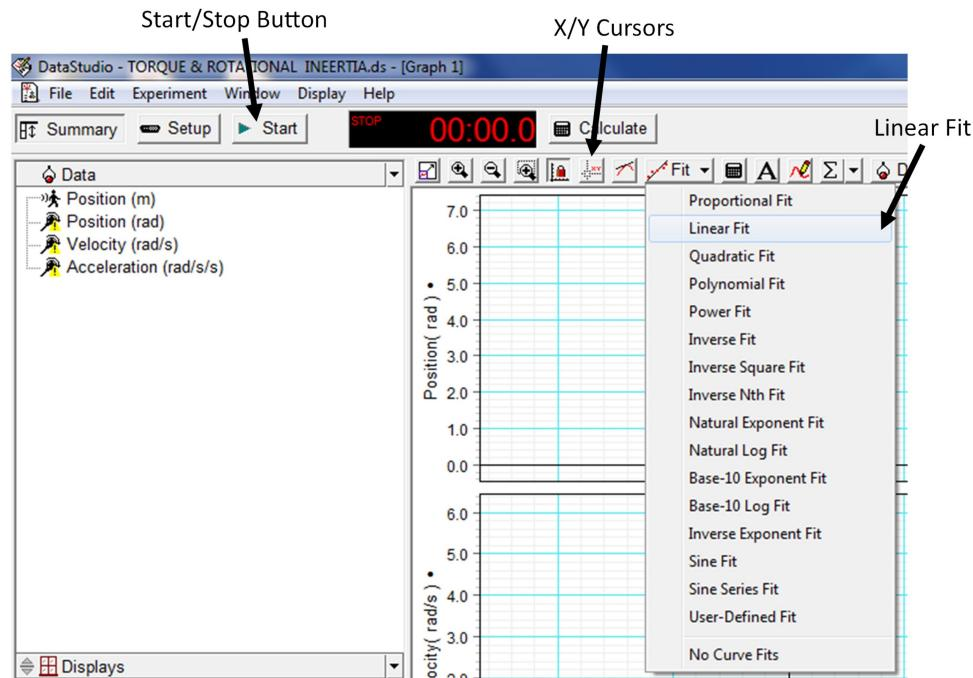
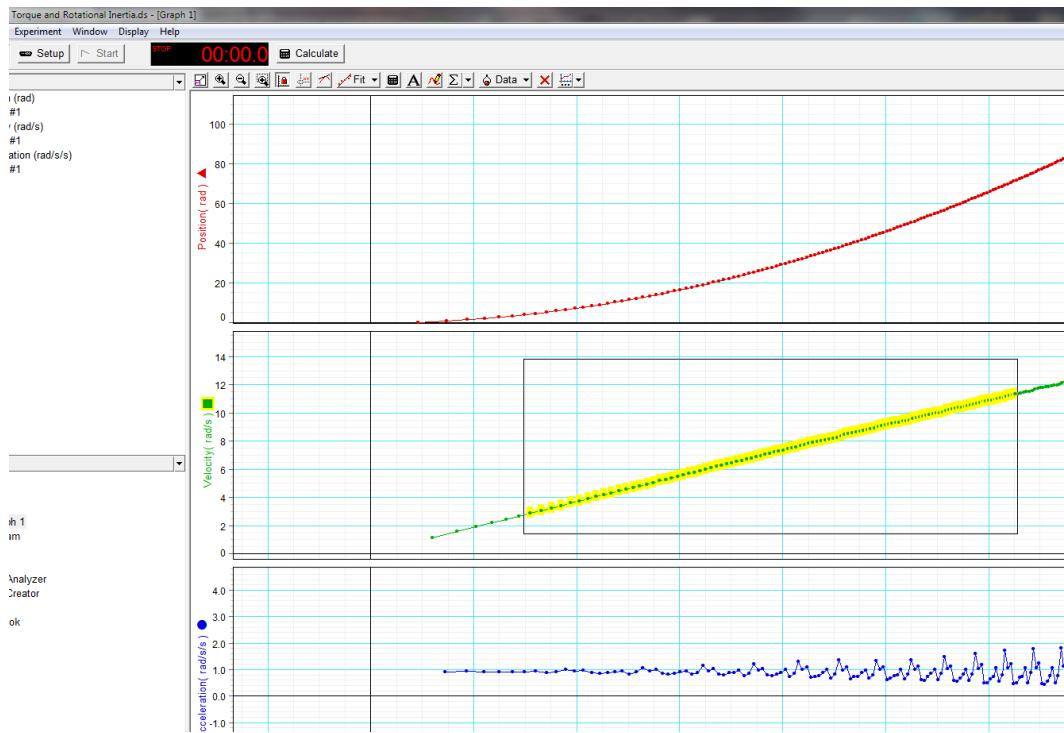

Figure 4: DataStudio Start button.
Figure 5: Selecting data.
4. Allow the rotating platform to rotate freely and start acquiring data by clicking the “Start” button in DataStudio as shown in Figure 4. Stop data acquisition before the mass hits the floor by clicking the same button.
5. Highlight a linear portion of the angular velocity graph as shown in Figure 5 and perform a linear fit by clicking the “Fit” drop down menu and selecting “Linear Fit” as shown in Figure 4.